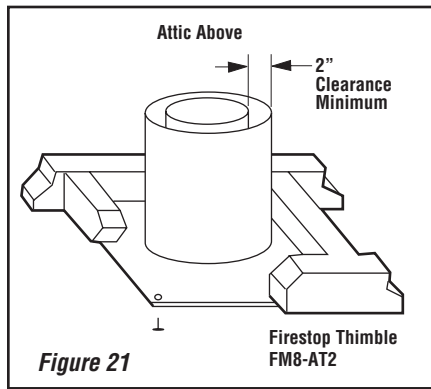

Figure 21
**Step 3.** Position appropriate thimble/firestop spacer combination at ceiling and nail temporarily with two (2) 8d nails or equivalent fasteners (see Figures 21, 22 and 23). Use thimble/firestop spacer, model FM8-AT2, if chimney penetrates ceiling vertically. If chimney penetrates ceiling at 30° angle (offset) chimney use Model F8FS30-2. Use one fastener on opposite sides to hold thimble/firestop spacer combination in position. Nail permanently, using at least two (2) more fasteners, after chimney sections have been assembled through the thimble/firestop spacer combination and after any necessary adjustments have been made. Firestop spacer must be secured by at least four (4) fasteners when completely installed.